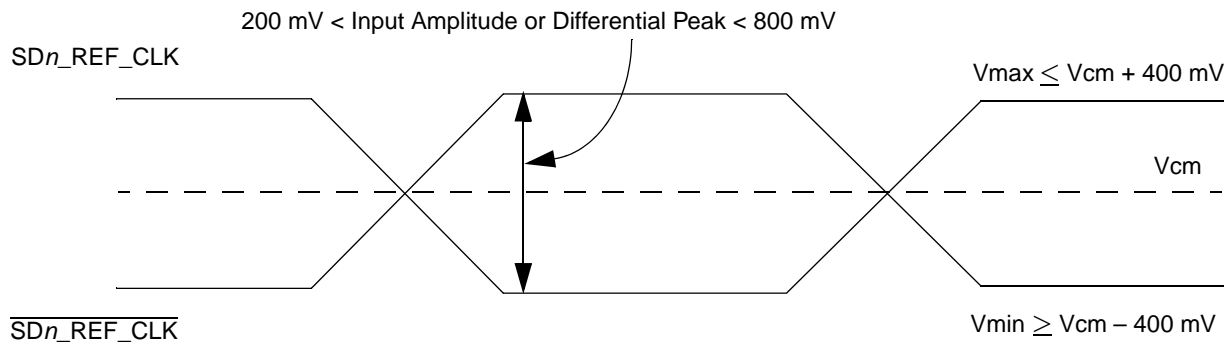

Figure 46. Differential Reference Clock Input DC Requirements (External AC-Coupled)
- For **external AC-coupled** connection, there is no common mode voltage requirement for the clock driver. Since the external AC-coupling capacitor blocks the DC level, the clock driver and the SerDes reference clock receiver operate in different command mode voltages. The SerDes reference clock receiver in this connection scheme has its common mode voltage set to SV_{SSn} . Each signal wire of the differential inputs is allowed to swing below and above the command mode voltage (SV_{SSn}). Figure 46 shows the SerDes reference clock input requirement for AC-coupled connection scheme.